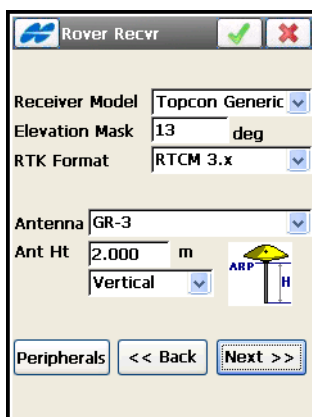

Figure 3-23. Rover Receiver
- **Next** – opens the *Rover Receiver* screen (Figure 3-23 on page 3-23). For PP enabled surveys, the *Rover PP Setup* screen
The **Rover Recvr** screen contains Rover settings (Figure 3-23 on page 3-23).
**For RTK surveys**, the screen contains the following parameters (Figure 3-23 on page 3-23) for configuring a Rover receiver and antenna.